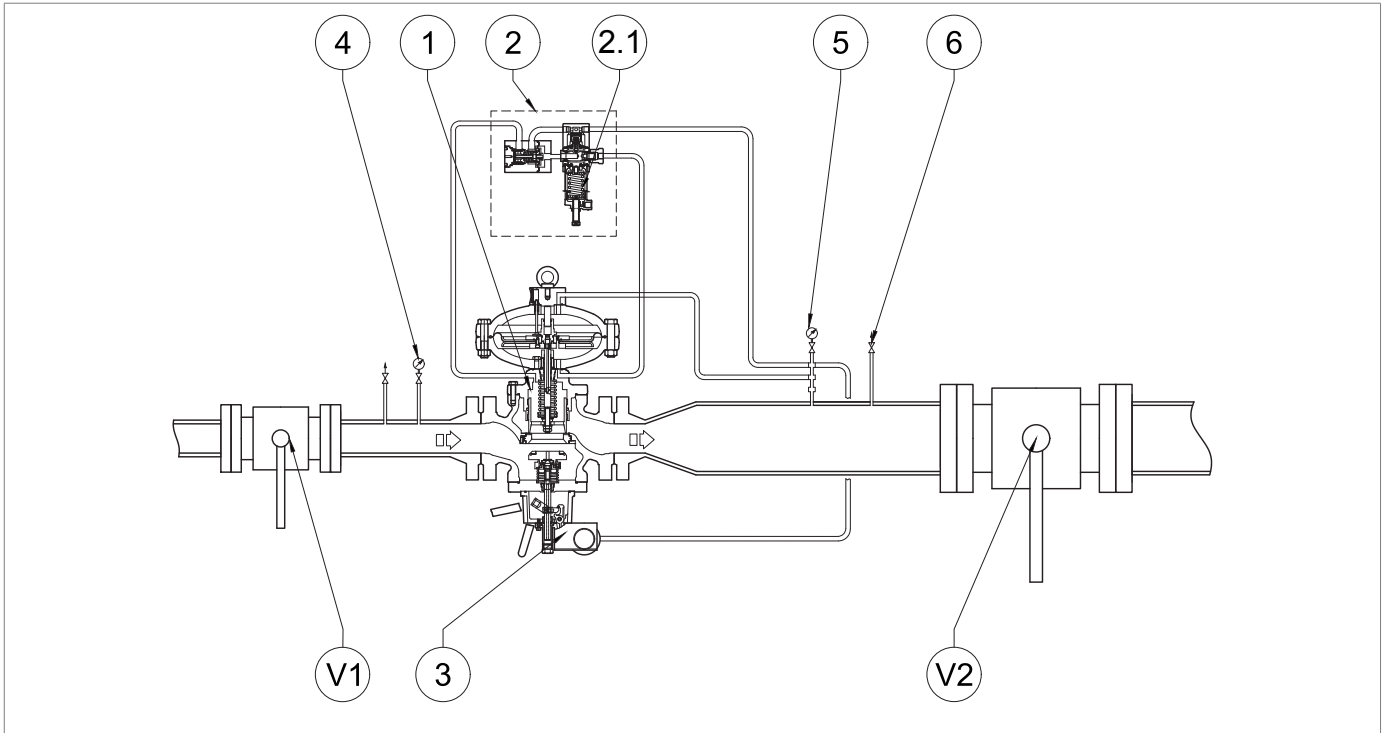
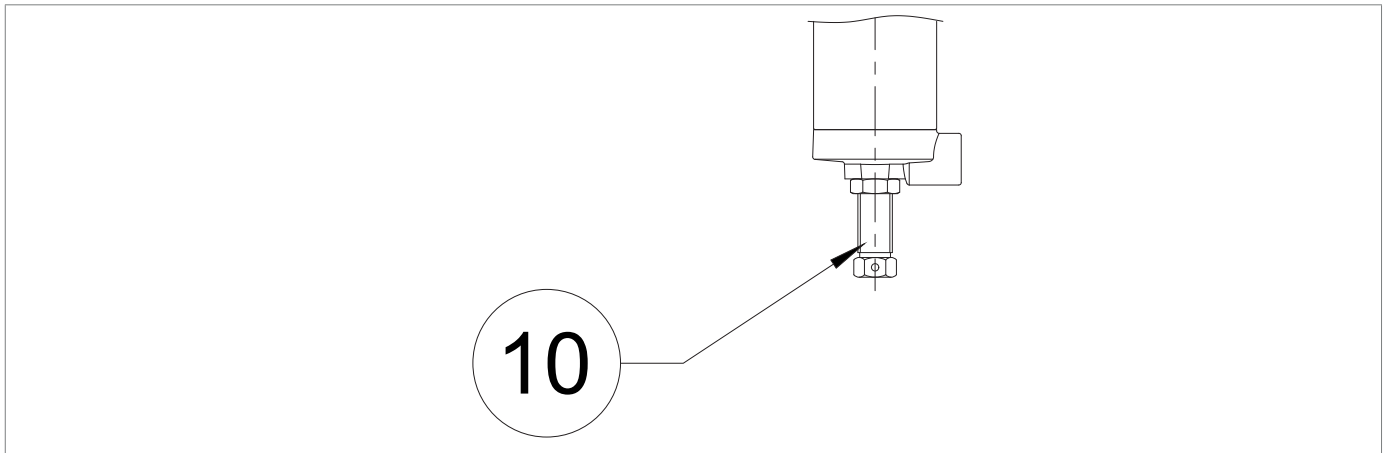

Fig. 8.32. Sealing of the SB/82 slam-shut valve when closing
Fig. 8.37. 200/A series pilots
9	a - FOR INITIAL COMMISSIONING OF THE REGULATION LINE If the pressure downstream (Pd) is not at the required calibration value, proceed as follows: <ul style="list-style-type: none"> downstream pressure value (Pd) lower than the required calibration value: load the calibration spring (Fig. 8.32, ref. 2.1) of the pilot by turning the adjustment screw (Fig. 8.37, ref. 10) downstream pressure value (Pd) higher than the required calibration value: unload the pilot calibration spring (Fig. 8.32, ref. 2.1) by turning the adjustment screw (Fig. 8.37, ref. 10) b - AFTER MAINTENANCE OF THE REGULATION LINE <ul style="list-style-type: none"> load the pilot calibration spring (Fig. 8.32, ref. 2.1) by turning the adjustment screw (Fig. 8.37, ref. 10) to increase the pressure value of the regulator (1) by rotating the adjustment ring (3) clockwise